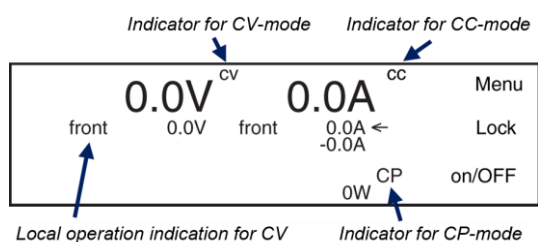
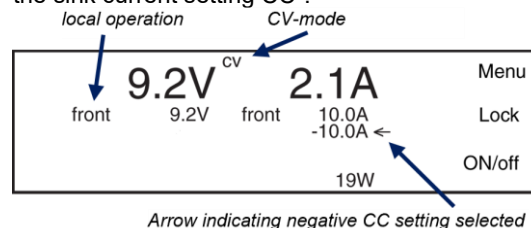

Figure 5.4: Operation mode
Figure 5.5: Positive and negative CC settings
- Depending on the load and programmed values, the unit will operate in Constant Voltage (CV), Constant Current (CC) or Constant Power (CP) mode. See Figure 5.4 for the indicator locations.
- See Figure 5.5 for a practical example. The output is ON. The unit is in CV mode, and 9.2 V, 2.1 A and 19 W are measured at the DC output. The CV setting is 9.2 V, the positive current setting is 10 A and the negative current setting is -10 A.
- In the display the arrow behind the value for the current changes position. Observe the difference in arrow position between Figure 5.4 and Figure 5.5.
- As mentioned previously, the unit is in local operation by default, see Figure 5.4.